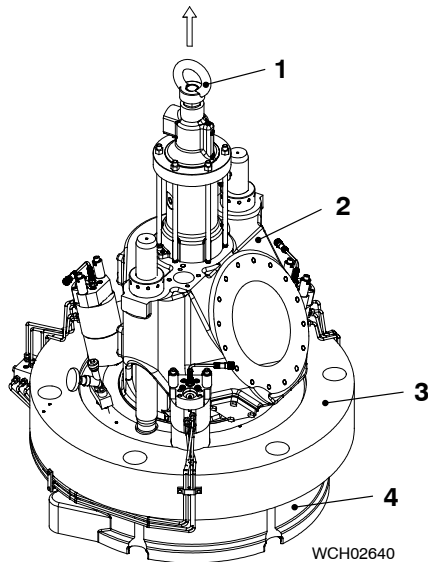
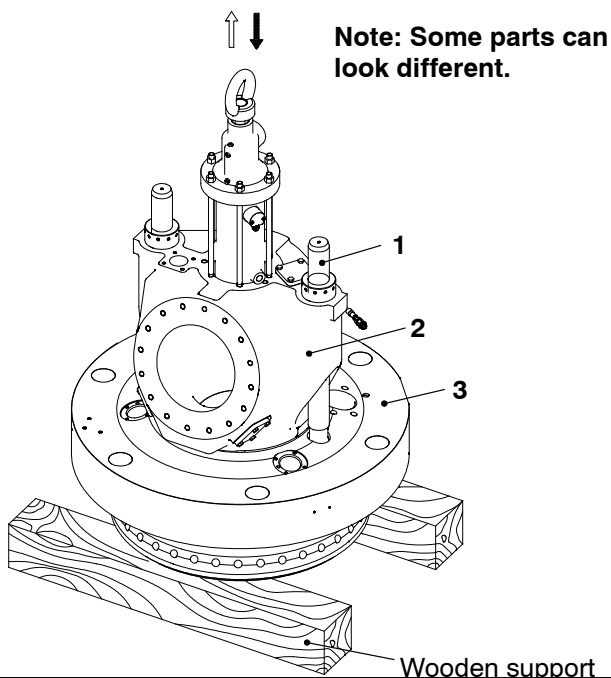
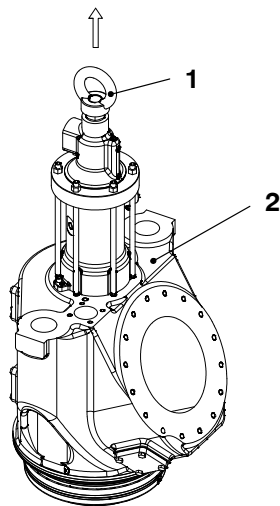

Fig.5
Fig.6
Fig.7
- 2) Attach the engine room crane to the eye bolt of the exhaust valve (1, Fig.5).
- 3) Lift the cylinder cover (3), exhaust valve (2) and the top water guide jacket (4).
- 5) Operate the crane to move the cylinder cover (3, Fig.6) with exhaust valve (2) above the wooden support.
- 6) Operate the engine room crane to lower the cylinder cover (3) and exhaust valve (2) on to the wooden support.
- 7) Remove the round nuts from the elastic studs (2), refer to 9403-4.
- 8) Attach the engine room crane to the eye bolt (1, Fig.7).
- 9) Operate the engine room crane to lift the exhaust valve (2, Fig.7). Make sure that the cylinder cover stays on the wooden supports.
- 10) Operate the engine room crane to move the exhaust valve (2) to an applicable area.
- 11) Carefully lower the exhaust valve (2, Fig. 6) on to a wooden support.
- 12) Disconnect the engine room crane from the eye bolt (1).